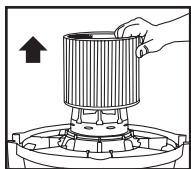

FIGURE 19
24. Slide the cartridge filter off the lid cage. **FIGURE 19.**